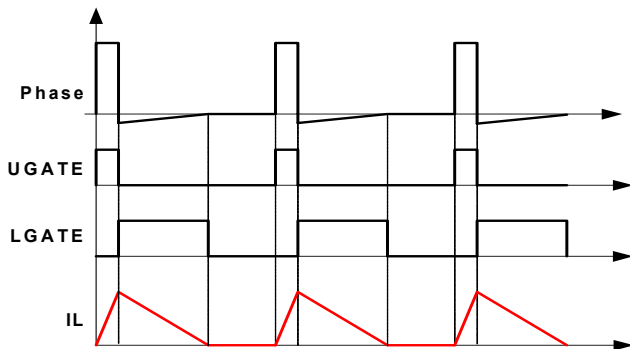

FIGURE 6. DIODE EMULATION
ISL62883 can operate in diode emulation (DE) mode to improve light load efficiency. In DE mode, the low-side MOSFET conducts when the current is flowing from source to drain and doesn't not allow reverse current, emulating a diode. As Figure 6 shows, when LGATE is on, the low-side MOSFET carries current, creating negative voltage on the phase node due to the voltage drop across the ON-resistance. The ISL62883 monitors the current through monitoring the phase node voltage. It turns off LGATE when the phase node voltage reaches zero to prevent the inductor current from reversing the direction and creating unnecessary power loss.
If the load current is light enough, as Figure 6 shows, the inductor current will reach and stay at zero before the next phase node pulse, and the regulator is in discontinuous conduction mode (DCM). If the load current is heavy enough, the inductor current will never reach 0A, and the regulator is in CCM although the controller is in DE mode.